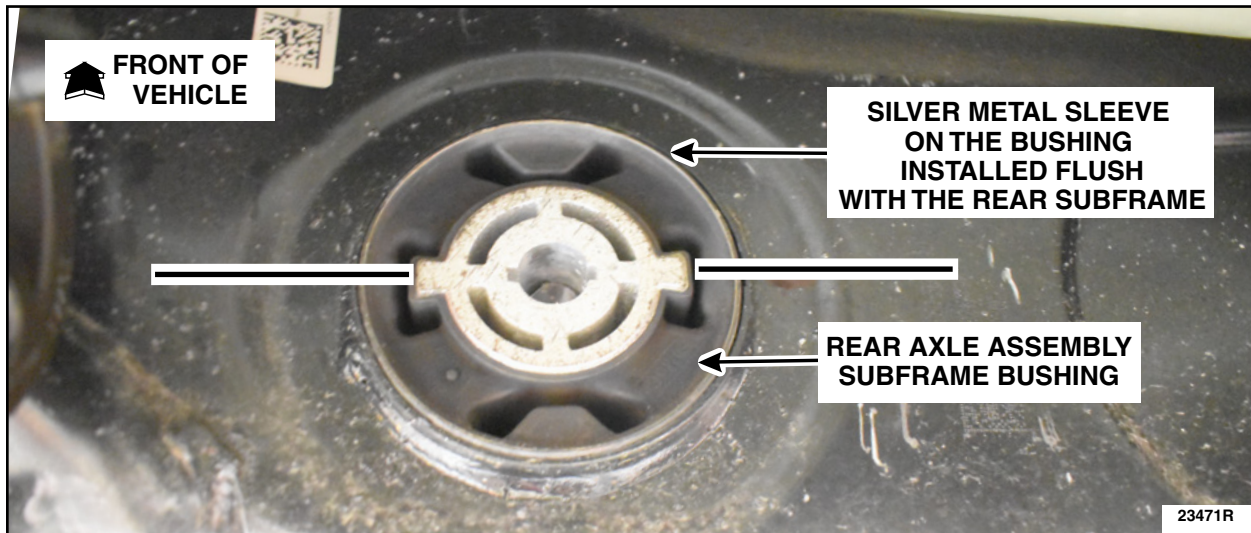

FIGURE 18
25. Using the ESST tools listed below, install the *new* rear axle assembly subframe bushing. See Figures 18 and 19.